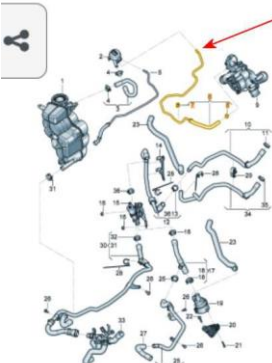

Figure 2
2) Referring to Figure 2 - Locate the vent hose shown (975 122 447H)